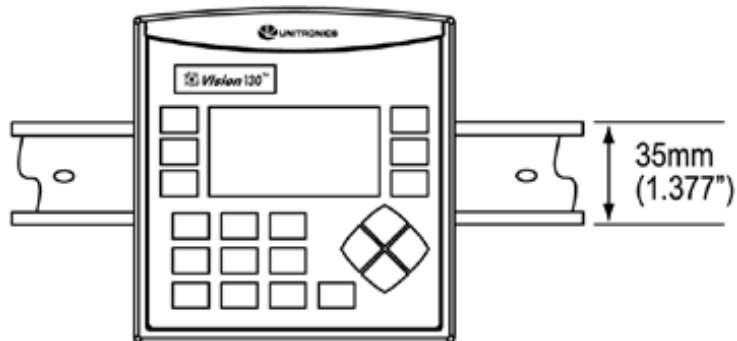

Figure B-11. Remote Relay Mounted
2. When properly mounted, the remote relay module is squarely situated on the DIN-rail as shown in Figure B-11.